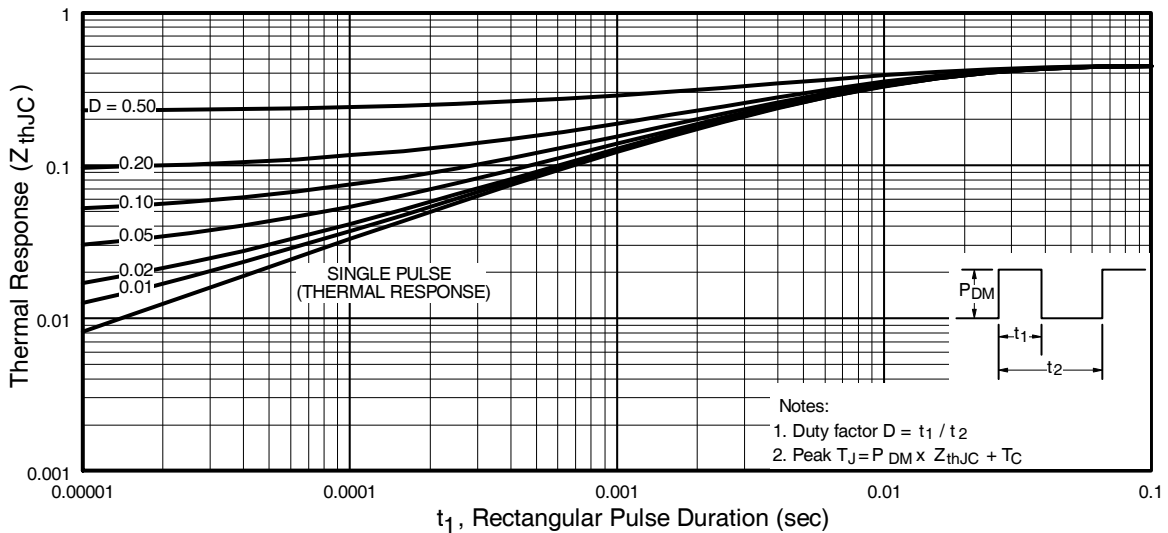

Fig 11. Maximum Effective Transient Thermal Impedance, Junction-to-Case
- ① Repetitive rating; pulse width limited by max. junction temperature. (See fig. 11)
- ② Starting $T_J = 25^\circ\text{C}, L = 85\mu H$
$Z_{thJC}(D, t_{av})$ = Transient thermal resistance, see figure 11)